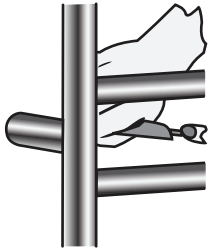

Figure 3
Step 3: Marking holes for wall mount posts (Figure 3)
- Take towel warmer with four (4) Metal Wall Legs mounted, as per Step 2.